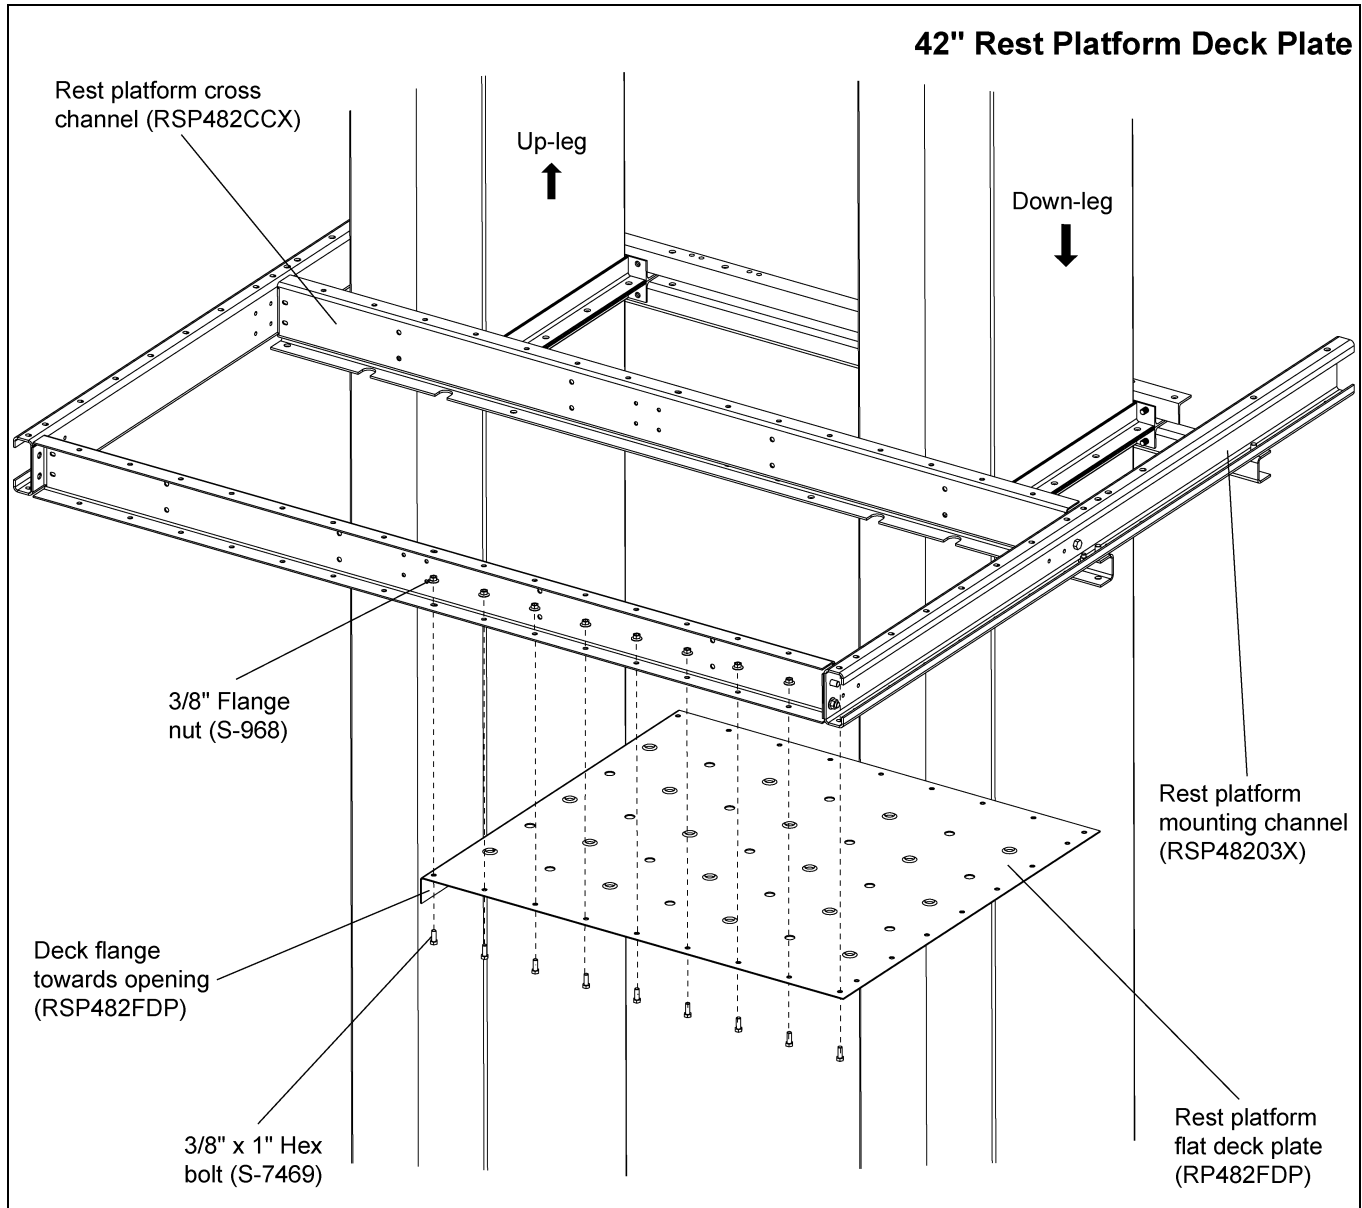

Figure 7H 42" Rest Platform Deck Plate
2. Bolt heads must be installed against the deck plate. (See Figure 7H below and Figure 7I on Page 45.)